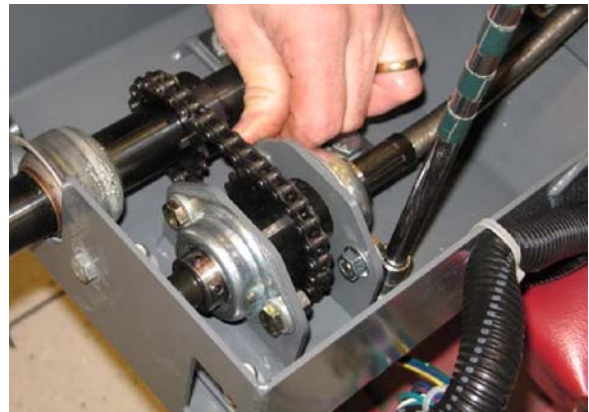

FIG. 34
6. **Older Design Machines:** Push the support plate weldment and tighten hardware (24 Nm / 18.5 ft lbs) to secure the support plate weldment to the steering channel. (Fig. 34)